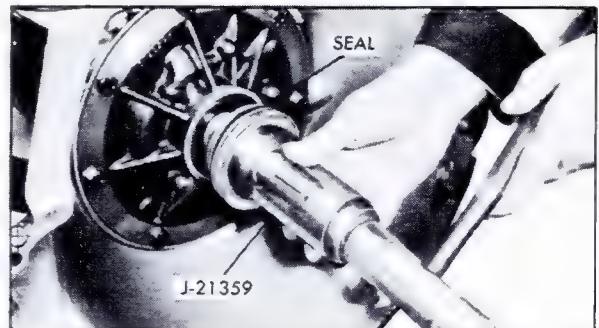

Fig. 7-41 Installing Pump Oil Seal
4. Install new seal in pump body using Pump Oil Seal Installer, J-21359, Fig. 7-41.